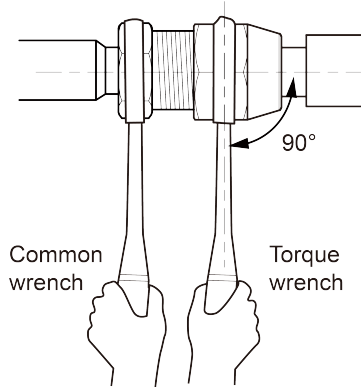

Fig.4.12
- (3) Use torque wrench to twist on the flared nut tightly until the wrench gives out a click sound (Hold the handle of wrench and make it at right angle to the pipe. as in Fig.4.12).